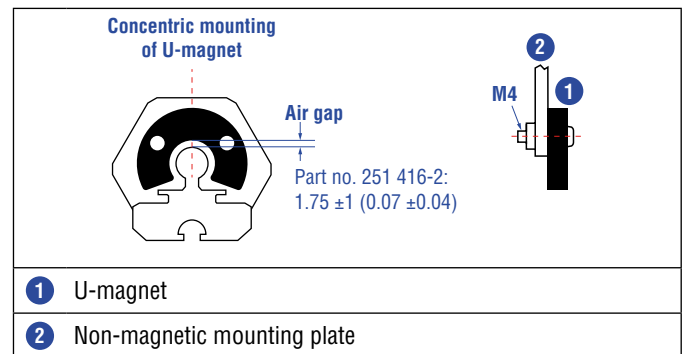
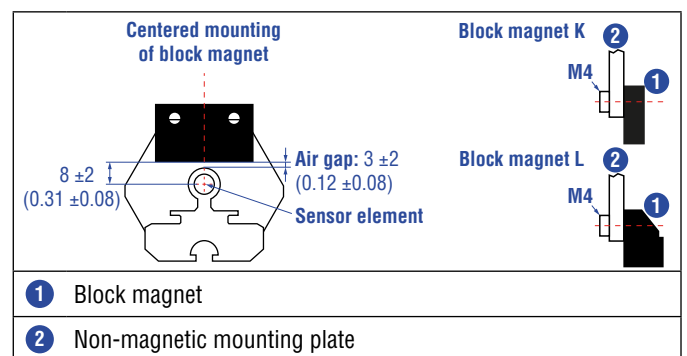

Fig. 49: Mounting of U-magnet (part no. 251 416-2)
Fig. 50: Mounting of block magnet (part no. 403 448)
- Mount block magnets centrically over the sensor rod or the sensor profile. The maximum permissible air gap must not be exceeded (Fig. 49/Fig. 50).